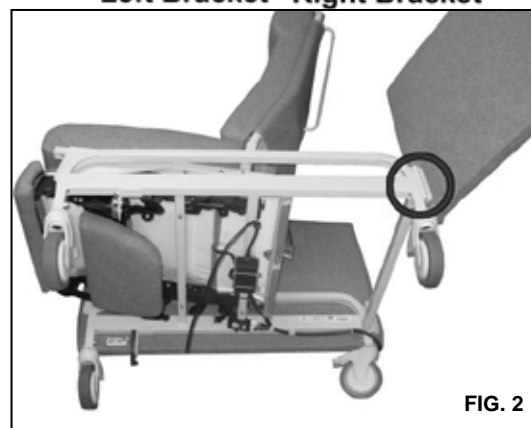

FIG. 2
2. Insert the "IV Spacer" into the "IV U-Bracket" (FIG. 2 or FIG.2A) and place onto chair frame.
7. Insert the "IV Spacer" into the "IV U-Bracket" (FIG.2) and place onto chair frame.
2. Locate the left or right rear side for 5560/6560. Locate the right-rear side for 6980/6990. (FIG.2)
3. CAREFULLY place the chair on it's side & And open the swing arm all the way. (FIG.2)
2. Next, line up the holes in the IV bracket with the holes in the rear-brace. (**FIG.2**)
Nut and bolt pre-installed on the IV tube should be in down position. (**FIG.2-ARROW**)